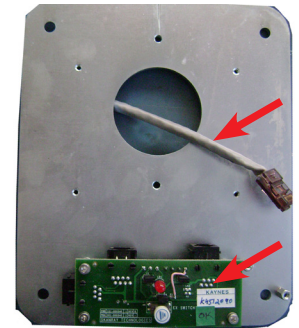

Figure 117
- Remove the Console extension board-external PCB from the wall plate by removing 4 M3X6 HSHC screws using 2.5mm allen key as shown in Figure 117 .
- Remove the PCB from the wall plate by removing 4 M3×6 HSHC screws using 2.5mm Allen key as shown in Figure 117 .
- Take the new PCB and fix it to the wall plate with 4 M3×6 HSHC screws using 2.5mm Allen key as shown in Figure 117 .